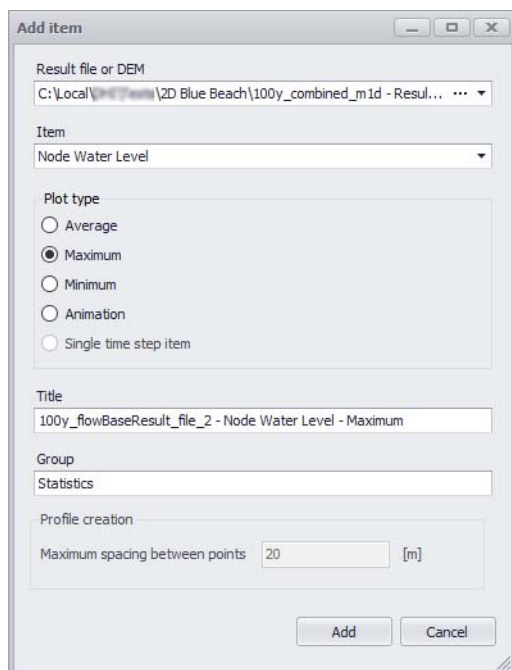

Figure 20.37 The 'Add item' dialog where the result file and items to add to the profile plot are defined
- Specify the result file, item, and data type to add to the profile plot on the 'Add item' dialog that appears (Figure 20.37).